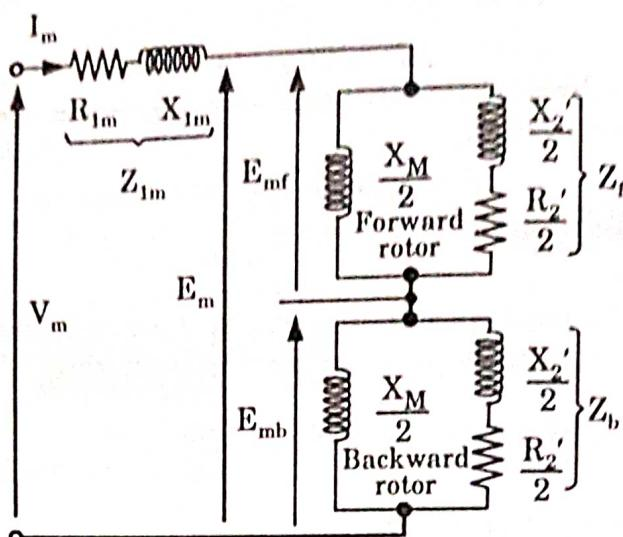

Fig. 5.3.1. Equivalent circuit at standstill.
1. Fig. 5.3.1 shows the equivalent circuit at standstill with effect of forward and backward rotating fluxes separated.